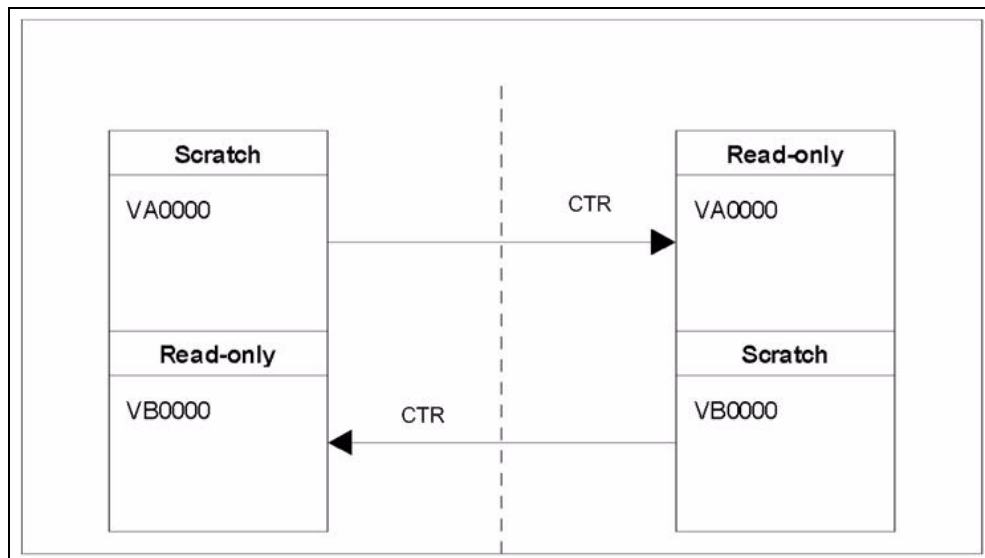

FIGURE 6-2 Intra-Site VTV Volume Relationships
- ? The VTV volume ranges for the two TapePlexes are per FIGURE 6-2. **Note that** each TapePlex has its own set of writable volumes and that these are mirrored on the other TapePlex by read-only versions.